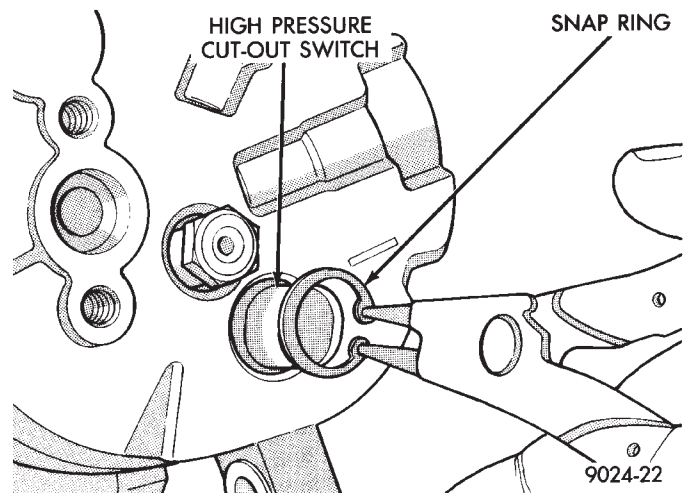

Fig. 17 Remove or Install Snap Ring
- (3) Remove snap ring securing the switch in the compressor end cover (Fig. 17).